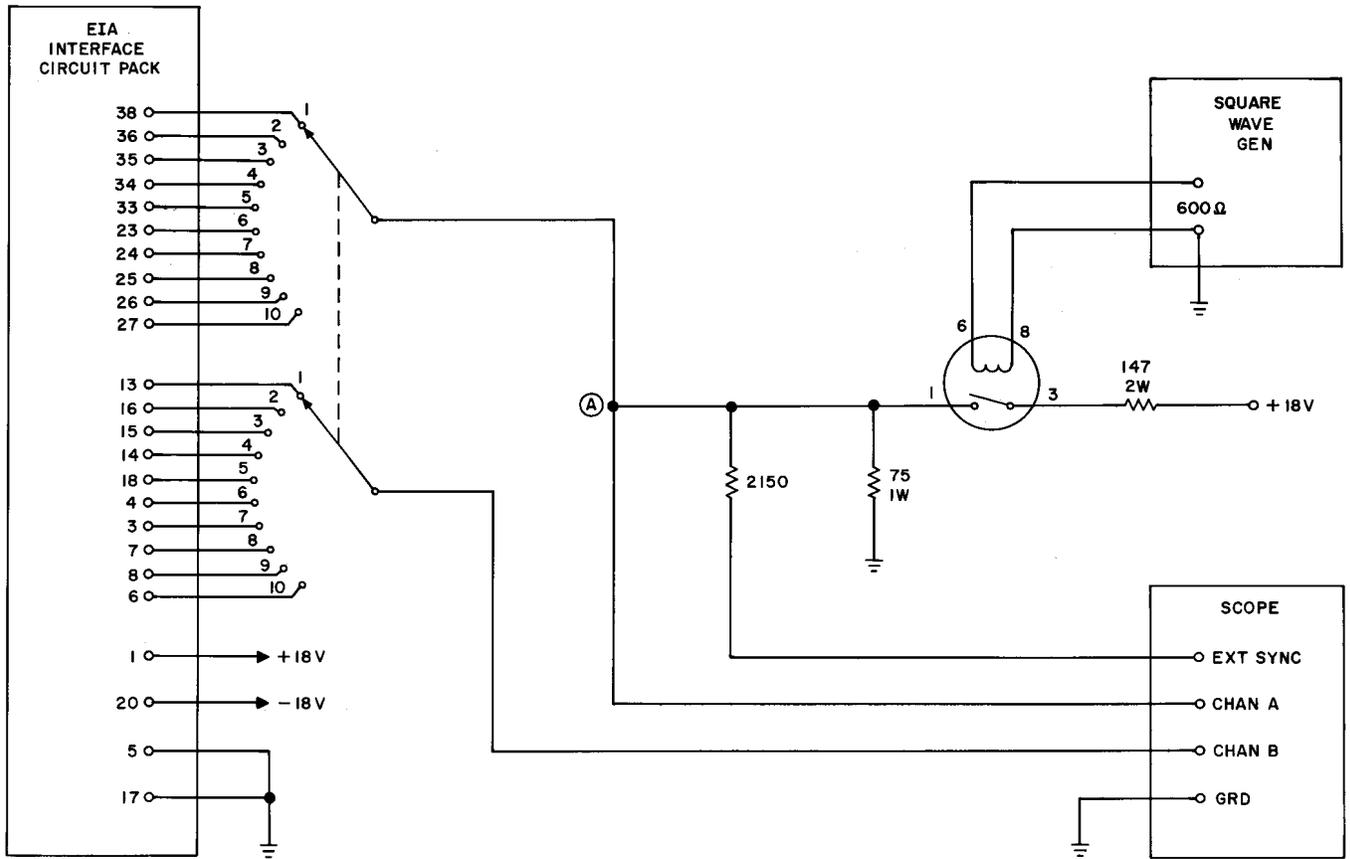

Fig. 41A — EIA Interface Test Circuit
7.09A Pulse Tests: With the circuit pack connected to the suggested test circuit shown in Fig. 41A, connect ground to terminals 5 and 17, +18.0 (± 0.5) Vdc to terminal 1, and -18.0 (± 0.5) Vdc to terminal 20. Temporarily short terminal 1 to terminal 3 of the mercury relay. The voltage between point A and ground should measure +6.0 (± 0.3) Vdc with the voltmeter. Remove the short on the mercury relay and set the frequency of the square-wave generator between 40 and 50 Hz. Set the EXT SYNC TRIGGER selector to the (+) positive position.